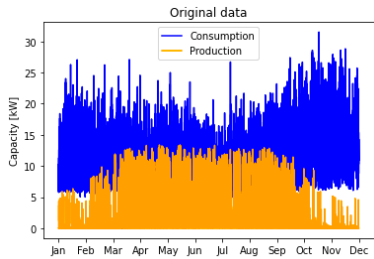

Fig. 1 Yearly Production/Consumption
- Original installed solar energy is not enough as seen in figure 1.